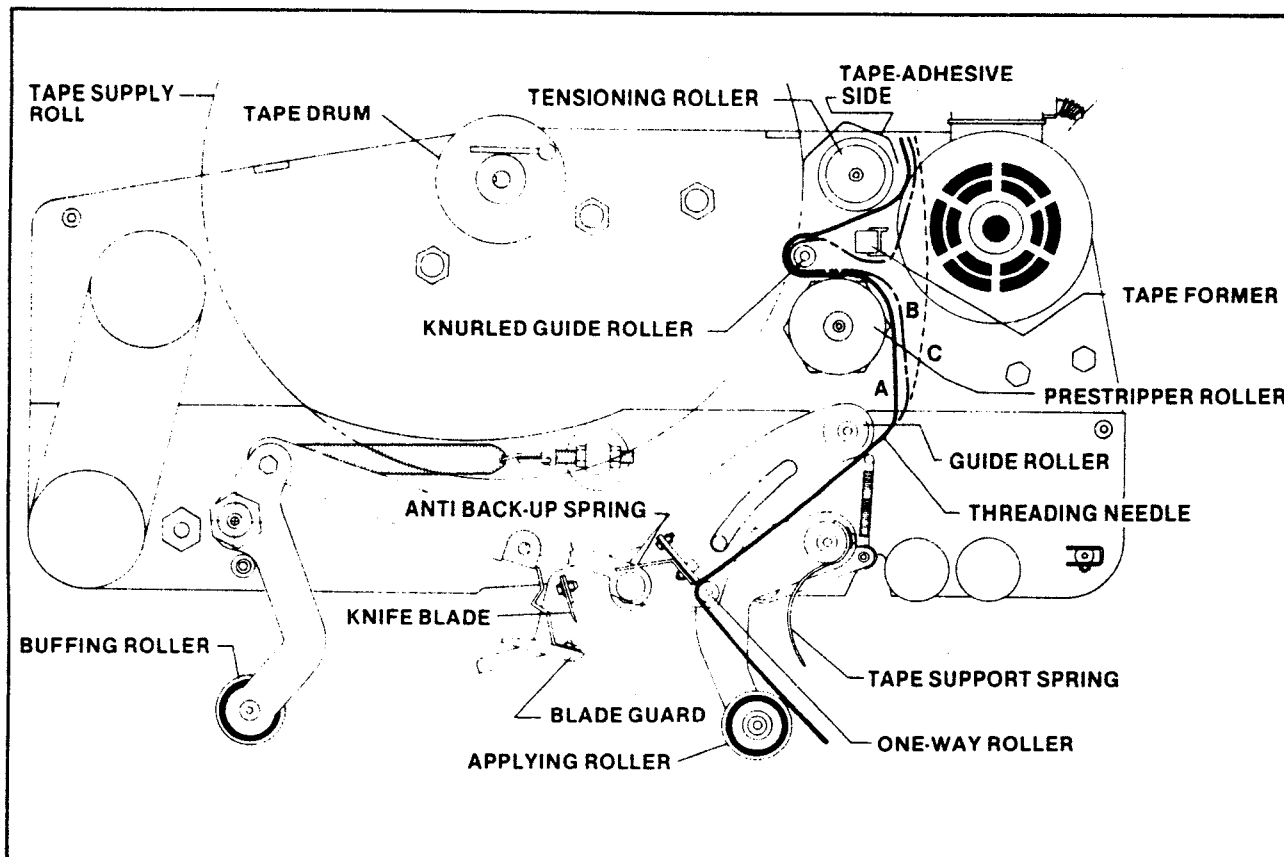
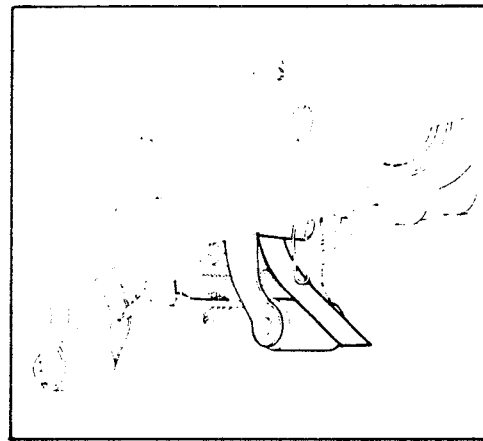
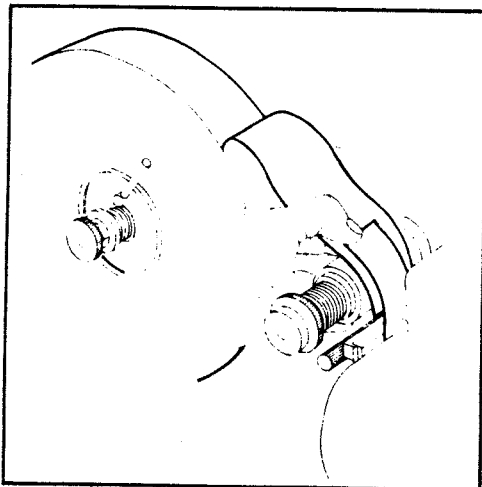

FIGURE 14 - TAPE THREADING DIAGRAM - TOP TAPING HEAD - LEFT SIDE VIEW
FIGURE 14B
FIGURE 14C
- 2) With the temporary threading needle already in position, as shown in figure 14, follow the tape loading procedure from figure 14C to complete the tape threading with this exception; thread tape around tensioning roller, former, knurled guide roller and prestripper roller in one of three paths depending on the type tape and application.
Figure 14B - Thread lower end of needle around front side of applying roller, as shown, between support spring and applying roller. Thread upper end of needle around guide roller and through path A, B or C as shown in figure 14.
Figure 14C - Turn eccentric roller lever inward to rest against tape drum shaft and place tape roll on drum to dispenser tape from bottom of roll toward guide roller with tape adhesive side up. Seat tape roll fully against back flange of drum and turn roller lever outward to secure tape roll. Adhere tape lead end to upper end of threading needle as shown.